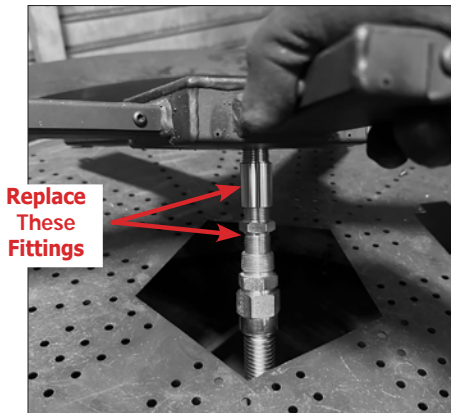

Figure 20: Burner Fittings to Replace
2. Replace the burner orifice and mixing tube fittings with the LP versions as shown in Figure 20. Picture indicates the direction of gas flow.